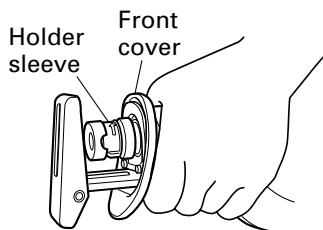

Fig. 6
- (1) Turn on and off the switching trigger several times so that the holder sleeve can jump out of the front cover completely. Thereafter, turn off the switch and remove the battery. (Fig. 6)
- Do not remove the front cover (refer to Fig. 6). Be sure to hold the body from the top of the front cover.